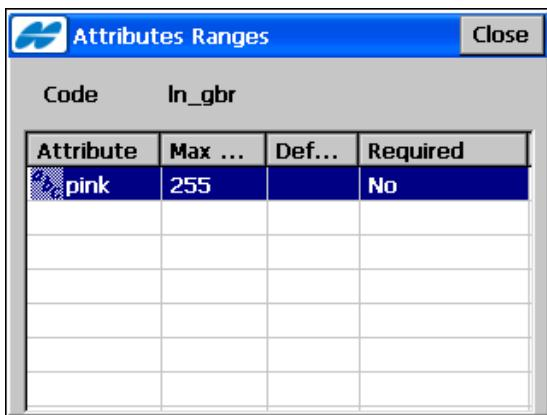

Figure 6-8. Attribute Range
- **Props** – opens the **Attribute Ranges** screen (Figure 6-8 on page 6-9) to view the ranges for the attributes.
On the **Attribute Ranges** screen (Figure 6-8 on page 6-9), you can view the ranges for the attributes.